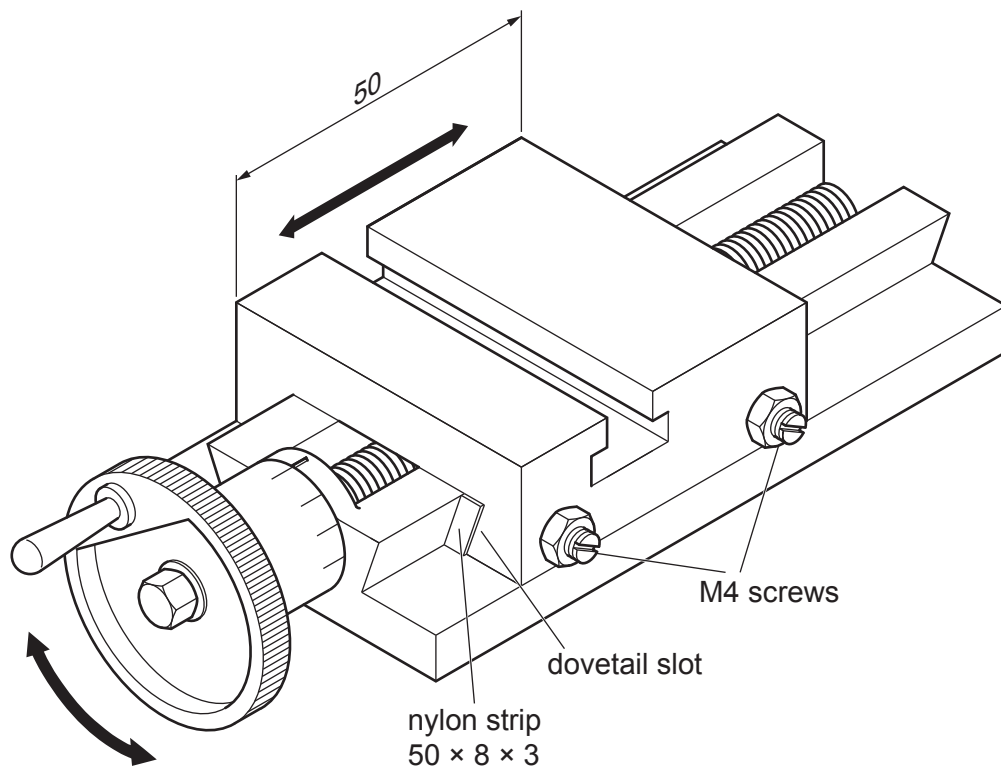

Fig. 10.6
- (e) Fig. 10.6 shows the cross slide of a small lathe. The moving portion is held in place in a dovetail slot. A strip of nylon on one side has M4 adjustment screws to hold it in place.